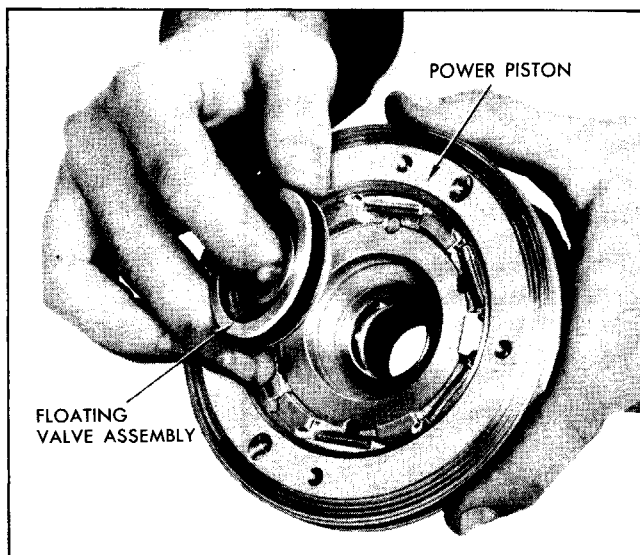

Fig. 5-61 Removing Floating Valve Assembly
13. Eject floating valve assembly from power piston by pulling out (Fig. 5-61), or by thumb press from hub end. If parts stick together and cannot be pressed out with the fingers, pry gently from opposite end to loosen.